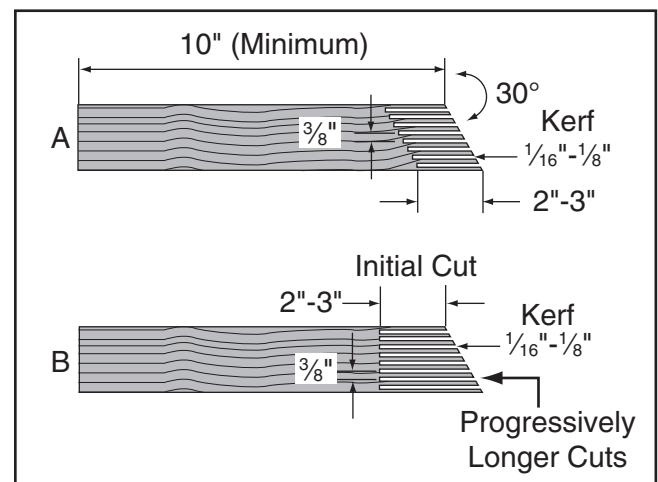

Figure 71. Patterns for featherboards (top view shown).
3. Make a series of end cuts with the grain $\frac{3}{8}$ "– $\frac{1}{4}$ " apart and 2"–3" long, as shown in **Figure 71 (A)**. Alternatively, start cuts at 2"–3" deep, then make them progressively deeper, as shown in **Figure 71 (B)**.